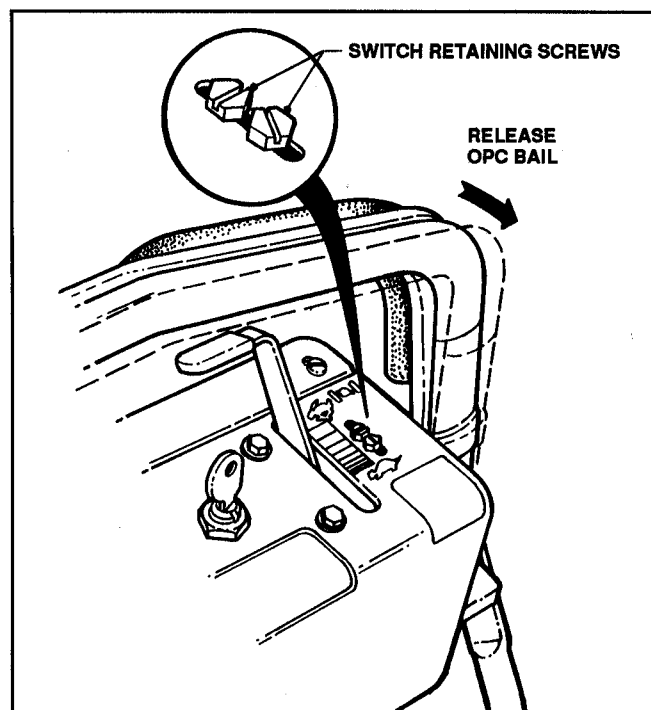

FIGURE 39
- C. Retighten switch retaining screws. See Figure 39.